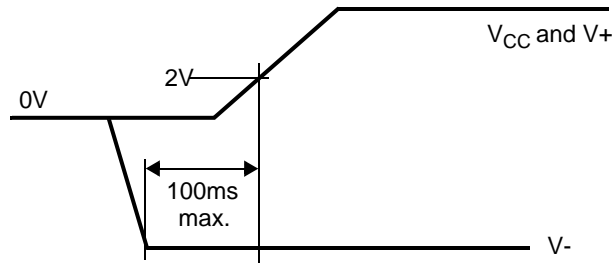

FIGURE 6. $V-/V_{CC}/V+$ Power-on Timing
7. V_{CC} and V₊ should be greater than 2V within 100ms of V₋ reaching the maximum value of V₋. This condition has not been known to cause POR issues, but it can stress the device as the result of improper biasing. See Figure 6.